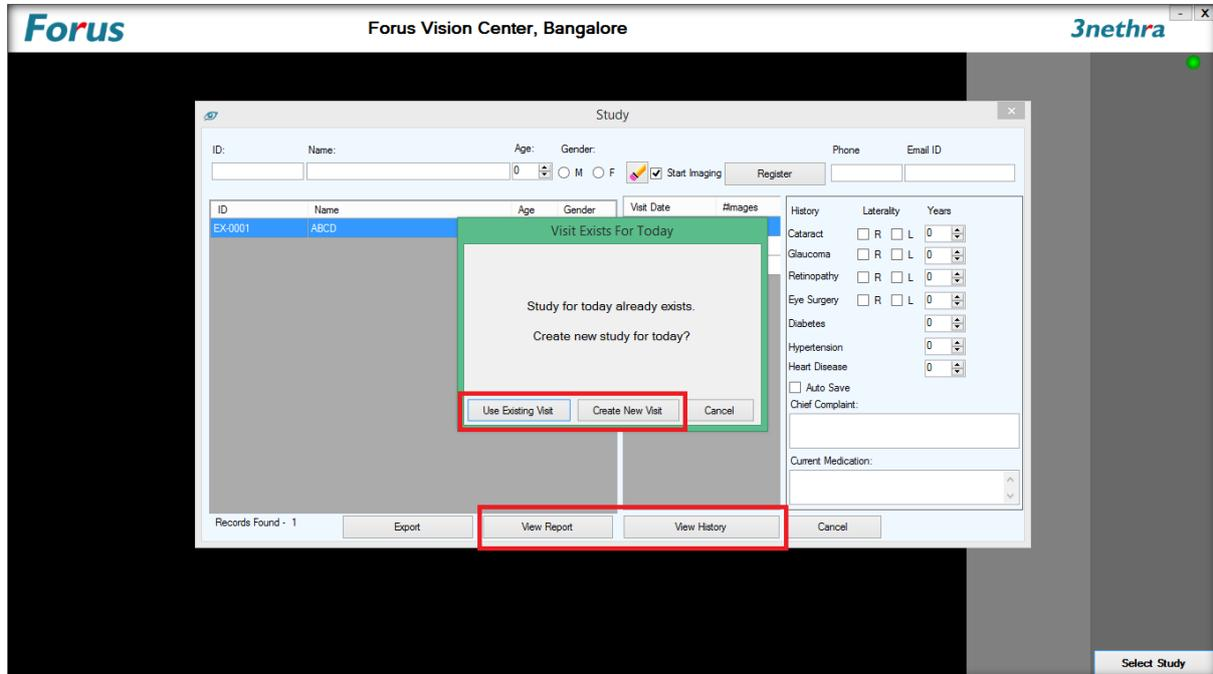

Figure 16: New Visit Dialog Box
4. Double click on the patient name or single click on “New Visit”. This will launch a window as shown in Figure 16
5. Following operations can be performed on the pop-up screen. Refer Figure 16